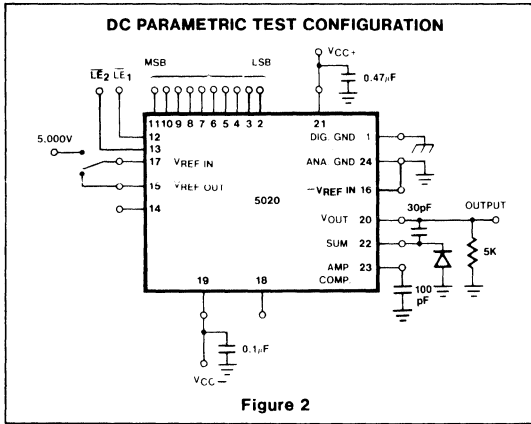

Figure 2
1. Refer to Figure 2
1. Refer to Figure 2.